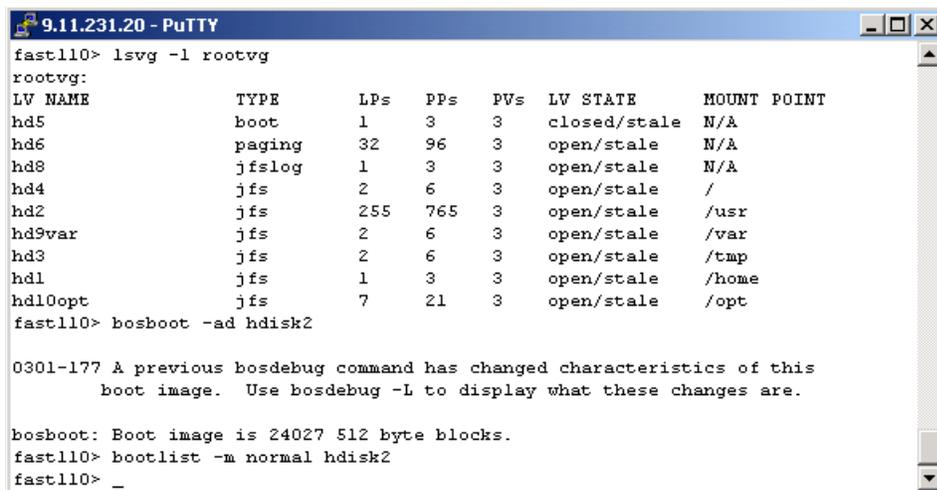

Figure 10-8 Verify that all partitions are mirrored
4. Verify that all partitions are mirrored (Figure 10-8) with **lsvg -l rootvg**, recreate the boot logical drive, and change the normal boot list with the following commands: